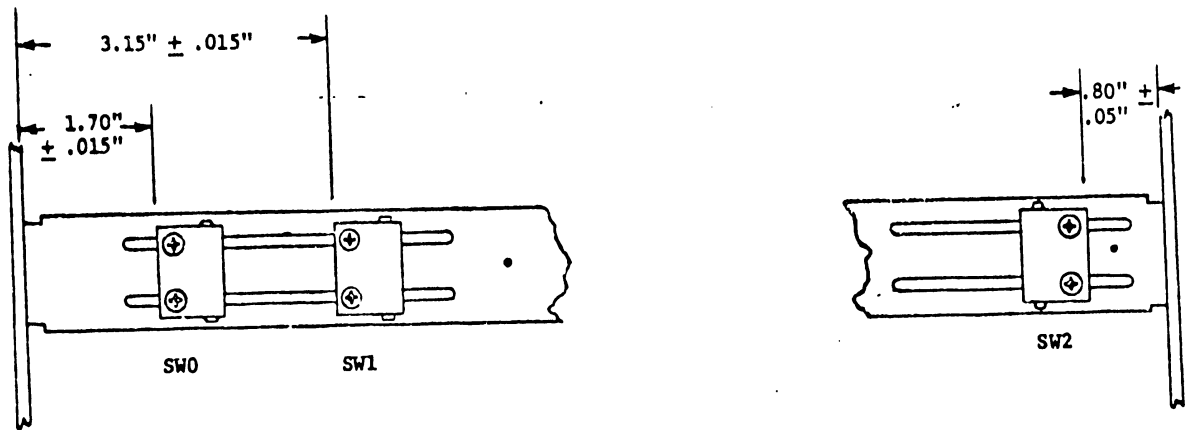

FIGURE 5-14 REED SWITCHES AND MOUNTING BRACKET
5.3.7 Reed Switches and Mounting Bracket (Figures 5-14, 15)